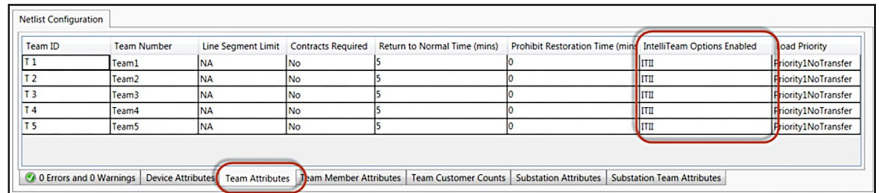

Figure 1. The Team Attributes>IntelliTeam Options Enabled setting.
- STEP 3.** For the **IntelliTeam Options Enabled** setting, select the **ITII** option, as shown in Figure 1.